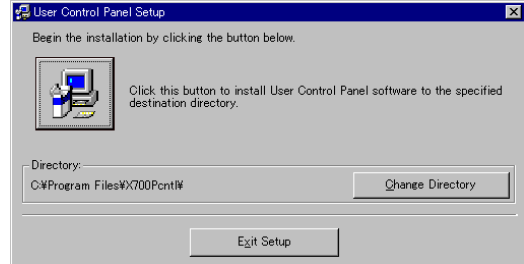

Fig. 2
- ② The User Control Panel installation screen appears.
- ③ When the screen [Welcome to the User Control Panel installation program] appears, click OK.
- ④ When the screen [Begin the installation by clicking on the button below] appears, click the Setup icon on the top left of the screen. (Fig. 2)